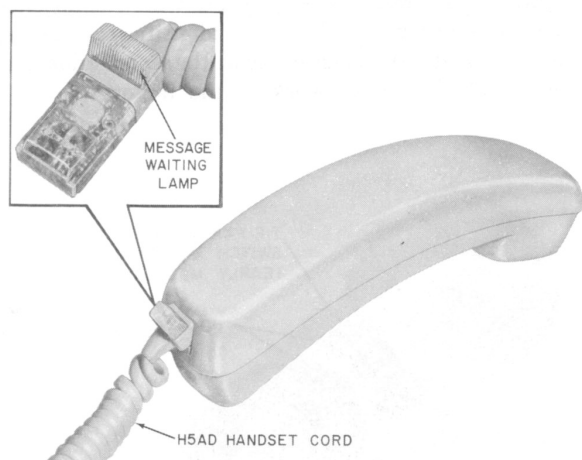

Fig. 9—H5AD Handset Cord (Message Waiting Lamp)
**3.10** If message waiting lamp feature is required, an H5AD cord must be used (Fig. 9) the lamp equipped end of the cord plugs into the hand telephone set.